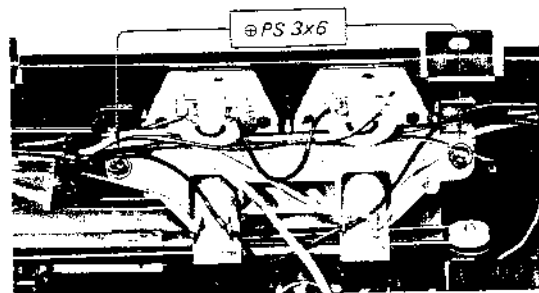

Fig. 2-12. Meter replacement
1. Remove the two screws securing the meter lamp shade as shown in Fig. 2-12. This frees the shade and the meters.